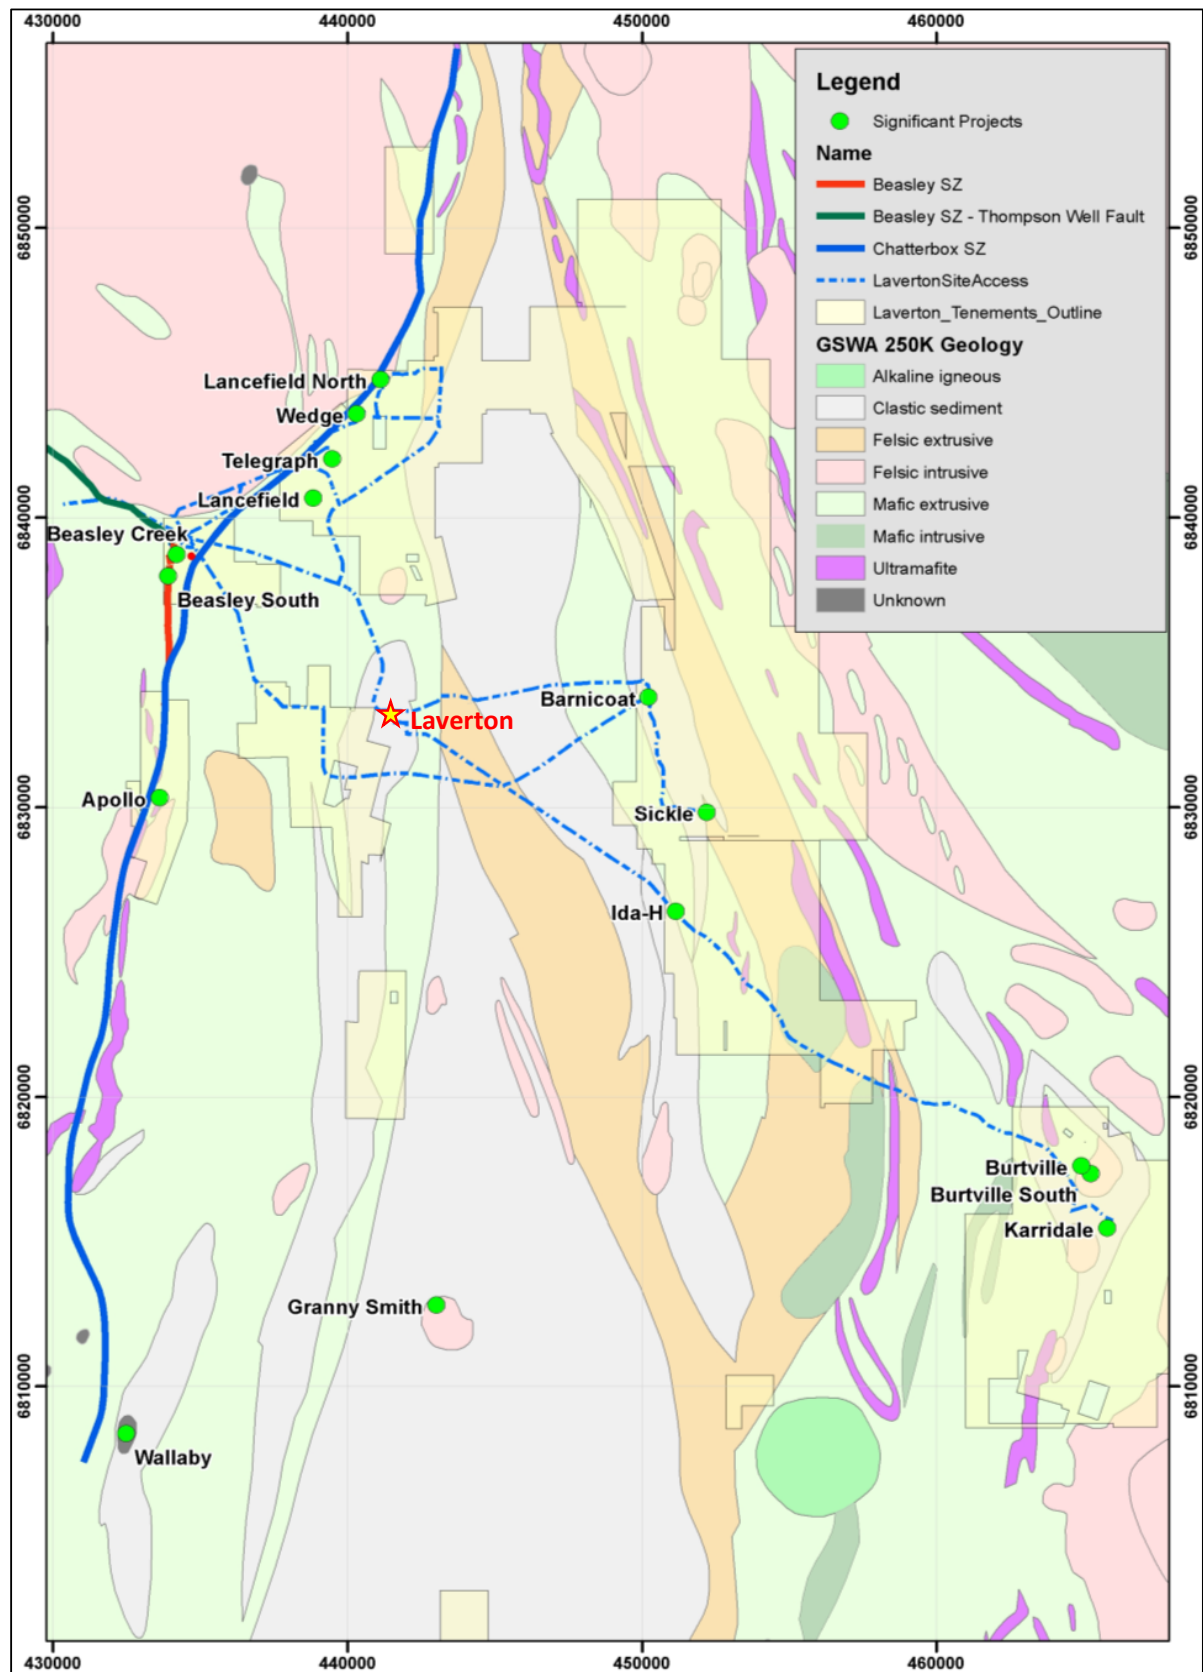

Figure 4: Geology map of the Laverton Gold Project
The Beasley Creek Open Pit (OP) is shaped somewhat like a bean on its side. The deposit is mostly hosted by the moderate east-dipping and south-striking Beasley Shear Zone (BSZ) (see Figures 4 – 6). At the northern end of the Beasley Creek OP, the BSZ wraps onto the north-west striking sub-vertical McIntyre Fault Zone (MFZ). The MFZ is strongly mineralised with a south-easterly plunge of mineralisation. The MFZ crosses the BSZ and is present in both the hanging wall and footwall of the BSZ. The MFZ is also interpreted to act as a feeder to seven shallow south-east dipping mineralised structures located in the immediate footwall of the BSZ (see Figure 5). These shallow-dip mineralised structures are truncated on intersection with the steeply south-west dipping Beasley-Thompson Well (BTW) Fault Zone. The BTW Fault Zone continues further to the west north-west and eventually curves to the north-west to wrap the western side of the Mt Margaret Anticline (see Figures 4 & 5).
The southern part of the pit increases in width, with a west south-west striking kink along the cross-cutting, moderate south south-east dipping Fitton Fault Zone. The mineralised Fitton FZ creates a 140m apparent dextral offset on the Beasley SZ. South of the Fitton Fault Zone the BSZ continues to strike south with moderate easterly dip and is structurally offset another two times over 400m strike between Beasley Creek and Beasley South. The far-south extension of the BSZ is interpreted to merge with the Chatterbox Shear Zone (see Figure 4).